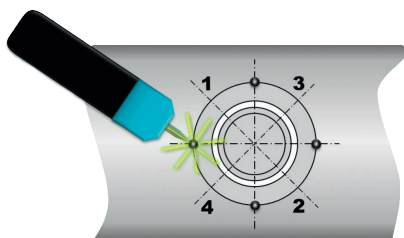

Fig. 1: Tacking
2. Centre and align the sleeve, then tack weld it with four points (fig. 1).